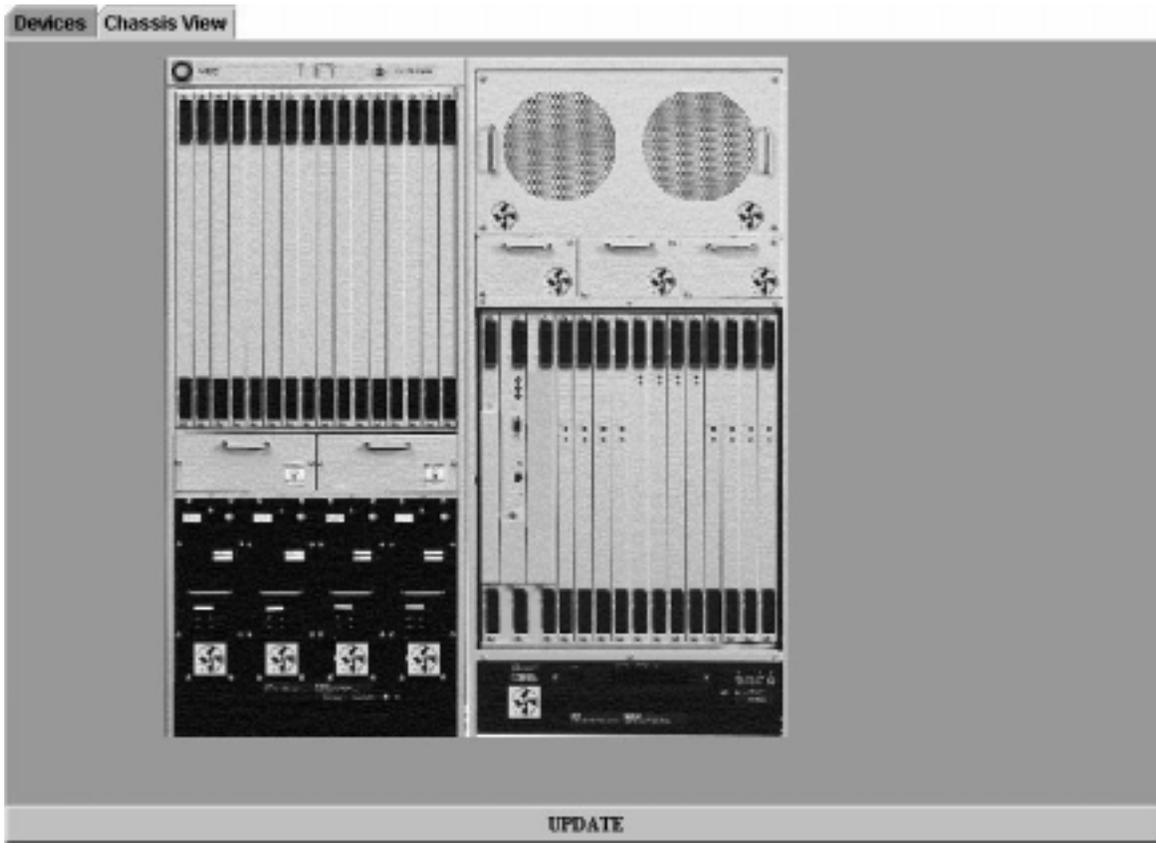

Figure 5-6: Chassis Panel View
2. Click the Chassis icon under the Device folder. The chassis for the selected device displays in the **Chassis View** panel. See Figure 5-6.